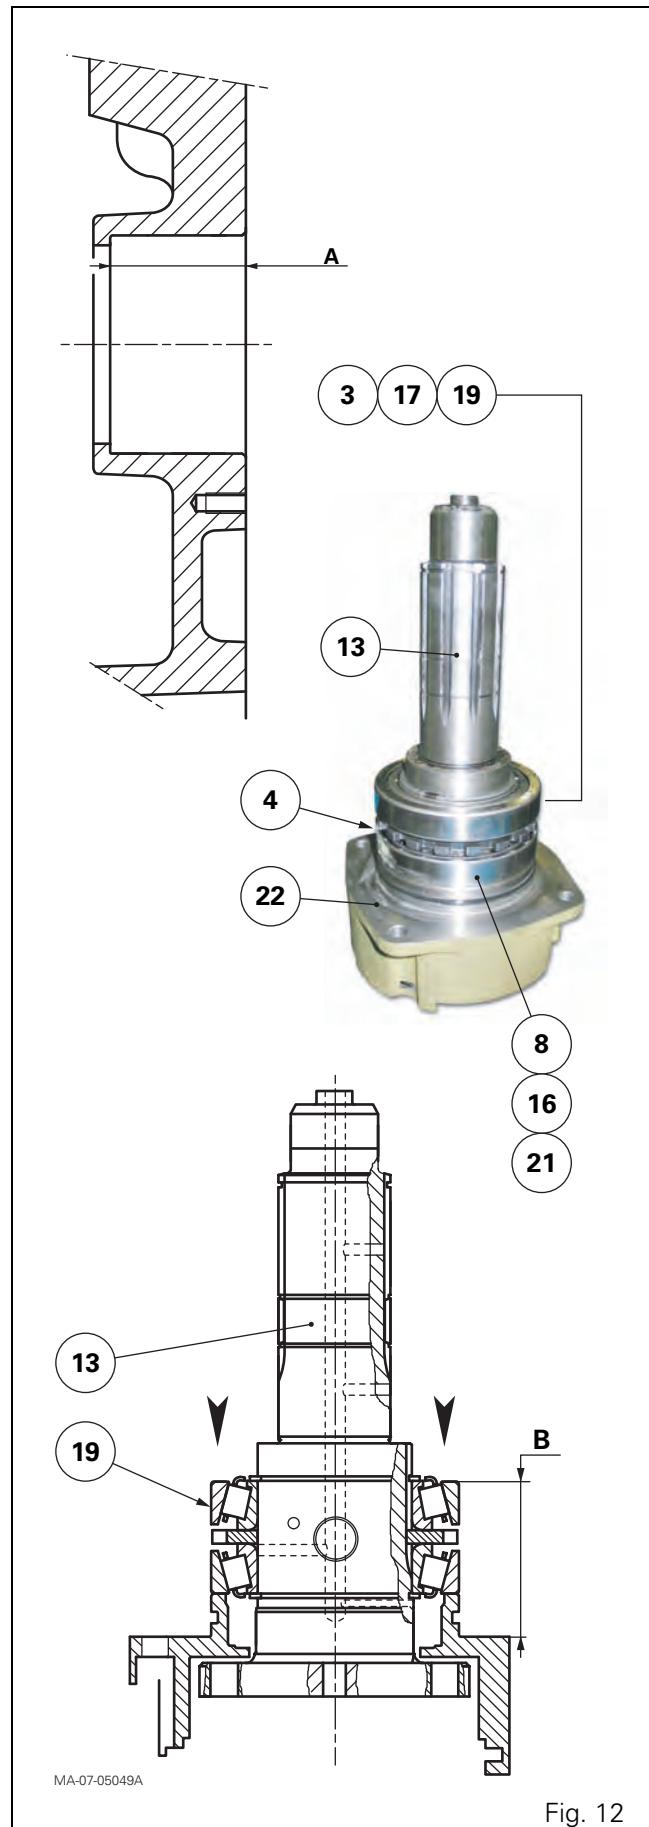

Fig. 12
72. Note dimensions A and B (Fig. 12). To avoid being hindered by the resistance of the cassette seal (14) (Fig. 11) on the shiftable output shaft (13), the seal should be temporarily excluded during measurement of A and B values.